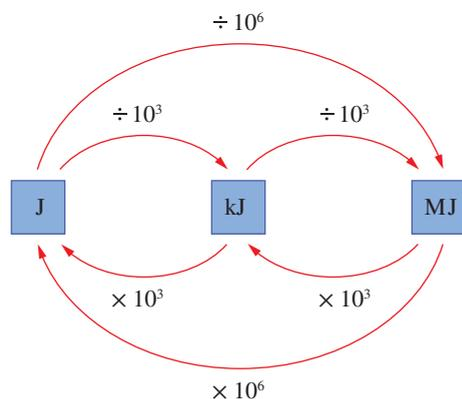

FIGURE 2.1.4 Converting between different energy units
Figure 2.1.4 provides a conversion guide for different energy units.
- 5 Use Figure 2.1.4 to convert each of the following to kJ.